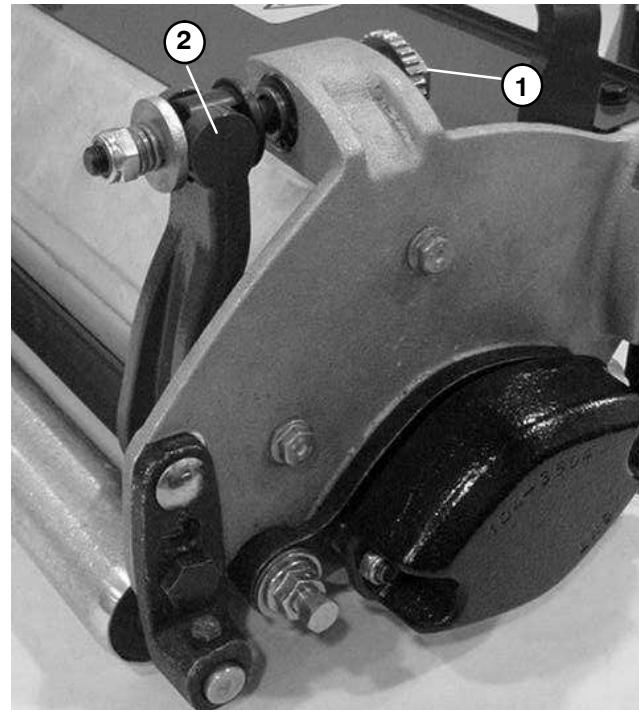

Figure 12
1. Position mower on a flat level work surface. Make sure engine is OFF. Remove high tension lead from the spark plug. Remove reel contact by turning bedbar adjusting screws counterclockwise (Fig. 12).